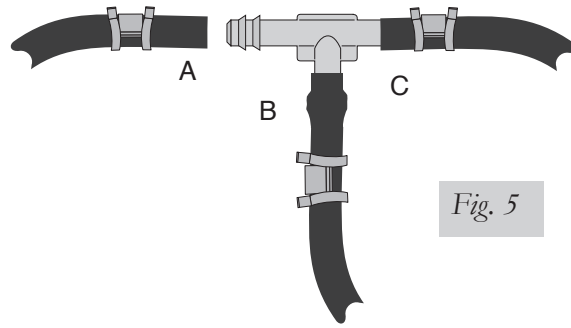

Fig. 5
3. Push the air line over one side of the tee until all the barbs are covered. With a pair of pliers, slide the air line clamp forward until it fully covers the barbed section. Repeat entire procedure for other leg of the tee (Fig. 5).